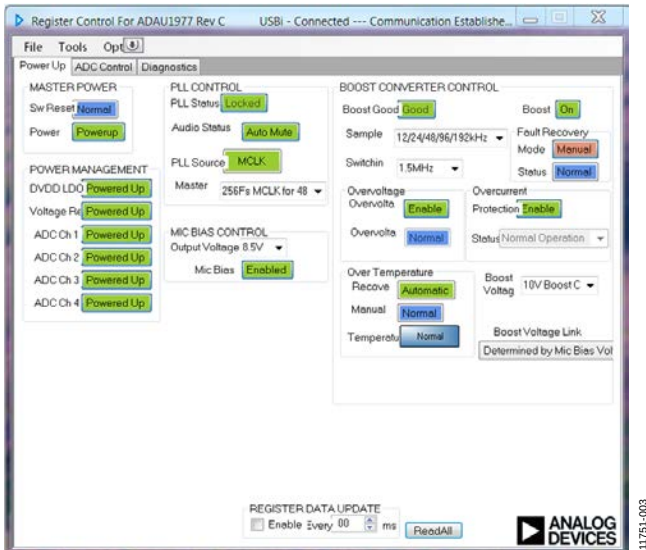

Figure 3. Register Control for the ADAU1977 GUI Page 1
3. A new window, as is shown in Figure 3, will appear.
4. The **USBi - Connected** message will appear at the top of the window (see Figure 3).
5. Click **Power Up**. The **Communication Established** message will appear at the top of the window (see Figure 3).
8. In the **MIC BIAS CONTROL** section, select the desired microphone bias output voltage (see Figure 3). By default, it is 8.5 V.
9. Ensure **Mic Bias** is **Enabled** (see Figure 3).
10. Check the microphone bias voltage output on the EVAL-ADAU1977Z board at the test point (TP).